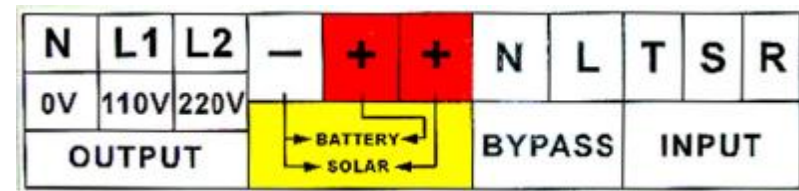

Figure 15
1. Please refer to Fig.15 for connections.